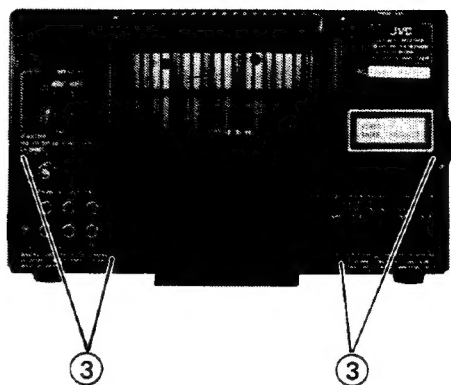

Fig. 4
3. Remove 4 screws ③ fastening the rear side.(Fig.4)